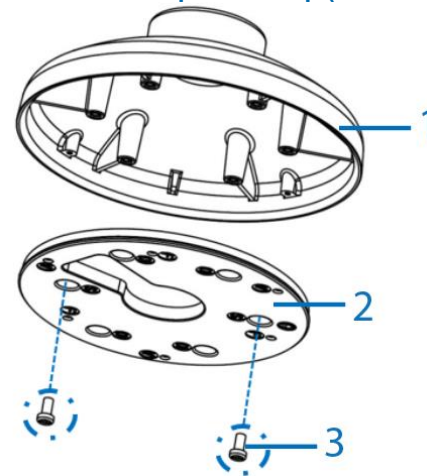

Figure 13
1. Hold the adaptor plate (2) (Figure 13) that comes in the box with the camera up into the pendant cap (1) (Figure 13).
3. Insert the two screws (3) (Figure 13) into the two holes and use a screwdriver to securely attach the adaptor plate to the pendant cap.